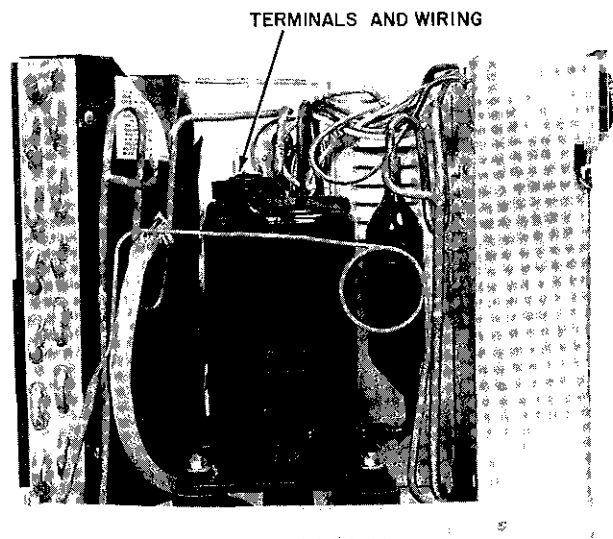

Fig 22 — Compressor and Overload Protector Wires
- b Disconnect wires from compressor and overload protector terminals See Fig 22 Identify wires to ensure correct reassembly